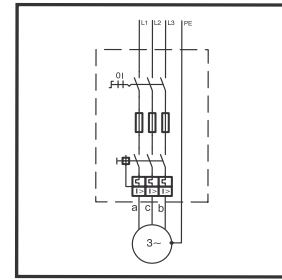

Fig.: 13
1. 1-phase connection (fig. 13, See Pg 8) Connect motor so that its direction of rotation corresponds to that of the unit. The connection features the usual circuit with a clockwise rotating field and an counter clockwise rotation for the motor shaft.